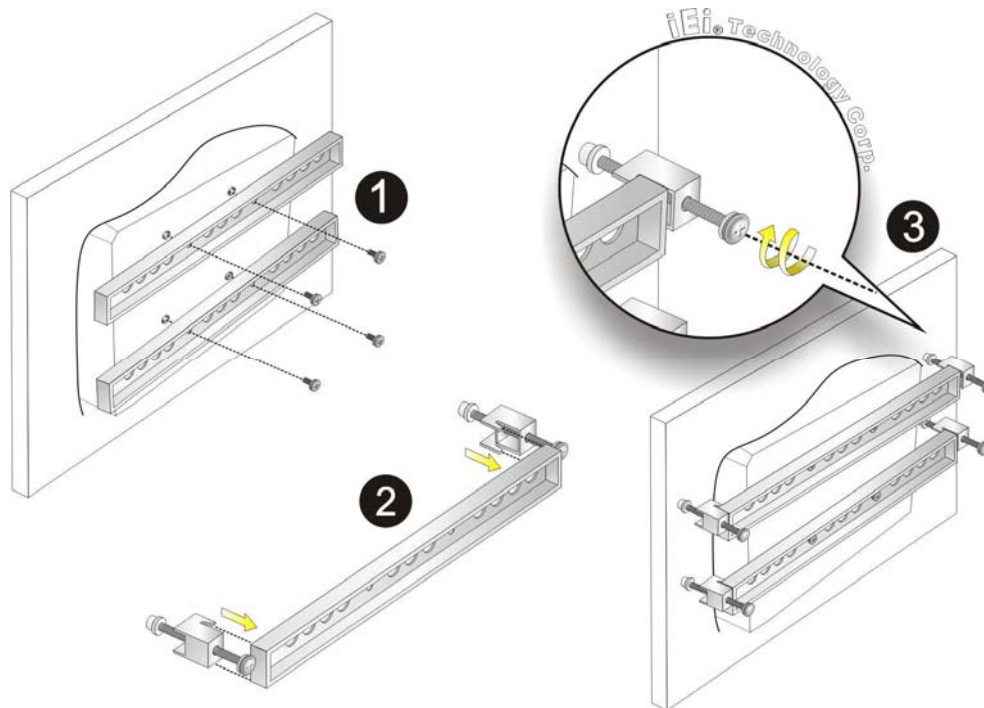

Figure 4-16: Panel Mounting
- Step 5:** Secure the two panel mounting brackets to the rear of the panel PC by inserting the four retention screws into the VESA mounting holes (**Figure 4-16 ①**).
- Step 6:** Insert the panel mounting clamps into the pre-formed holes along the two edges of the panel mounting brackets (**Figure 4-16 ②**). There are a total of 4 panel mounting clamps for AFL-15A-N270.
- Step 7:** Tighten the screws that pass through the panel mounting clamps until the plastic caps at the front of all the screws are firmly secured to the panel (**Figure 4-16 ③**).